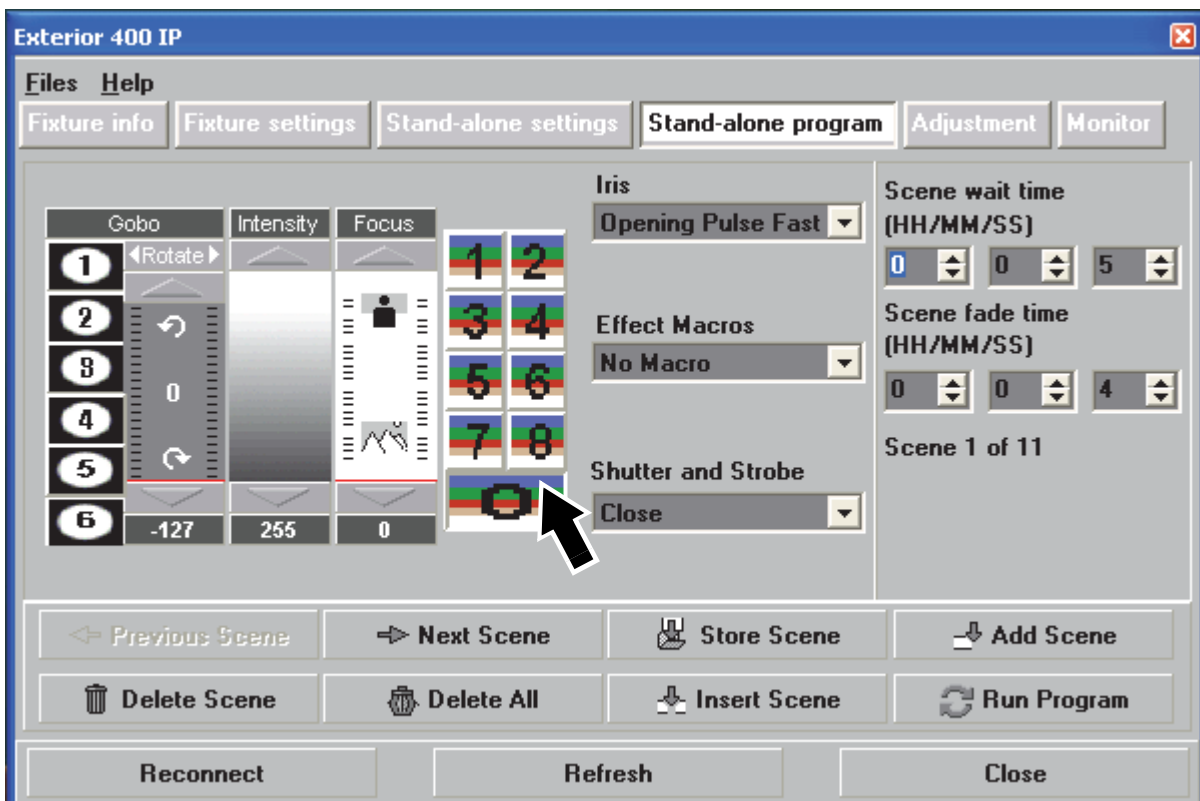

Figure 18: Stand-alone programming window
1. See Figure 18. Click on the **Stand-alone program** button.
Once you have specified values for the effects and fade and wait times for the scene, you can store and manage scenes using the commands available at the bottom of the **Stand-alone program** window (see Figure 18):